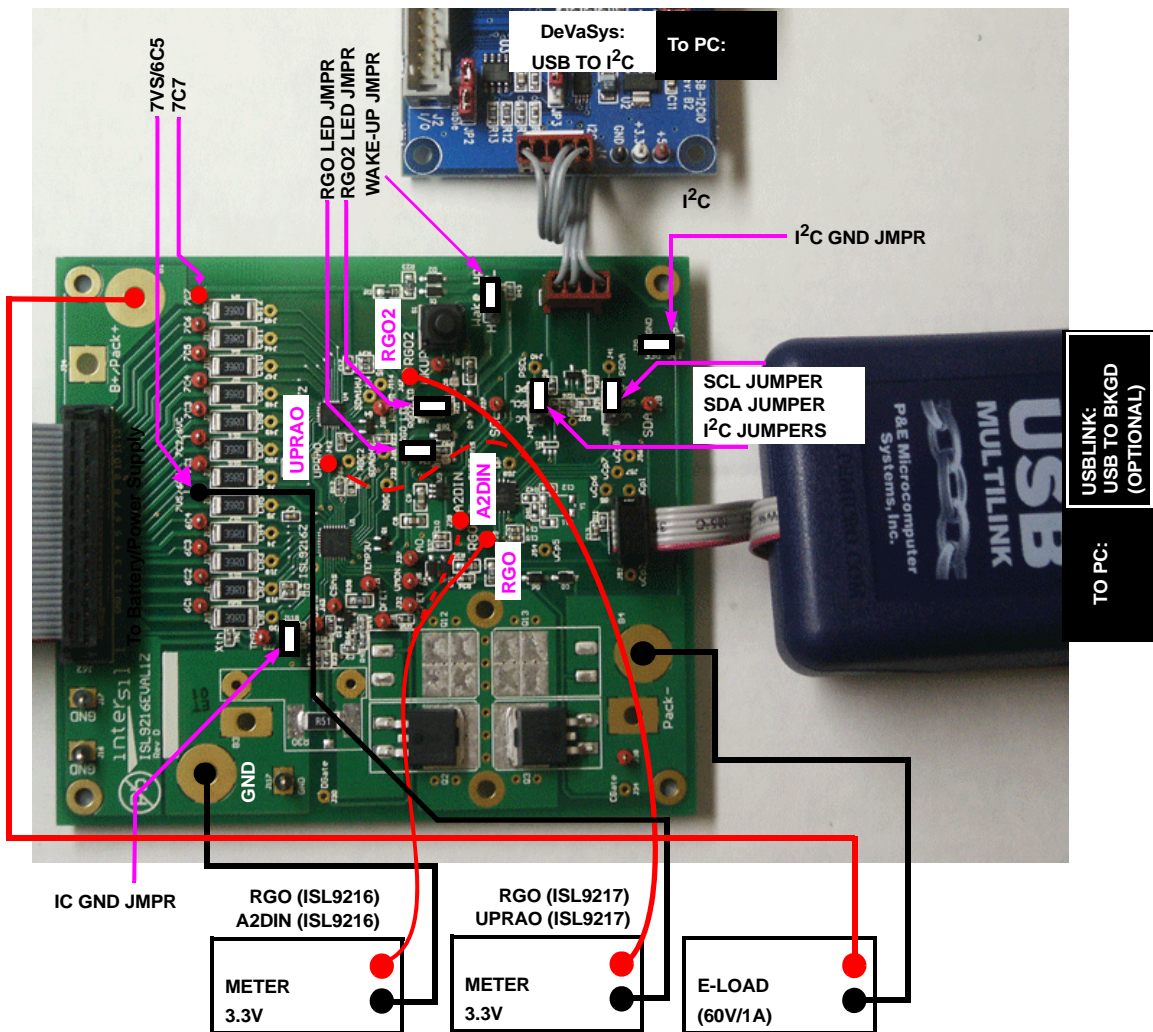

FIGURE 5. ISL9216EVAL1Z (Rev D) BOARD CONNECTION
- Once power is turned on (or Li-ion cells are connected to the ISL9216EVAL1Z (Rev D) cell inputs, the RGO and RGO2 LEDs should light. Use meter 1 and meter 2 (as shown in Figure 5) to measure the RGO voltages. They should each read about 3.3V.